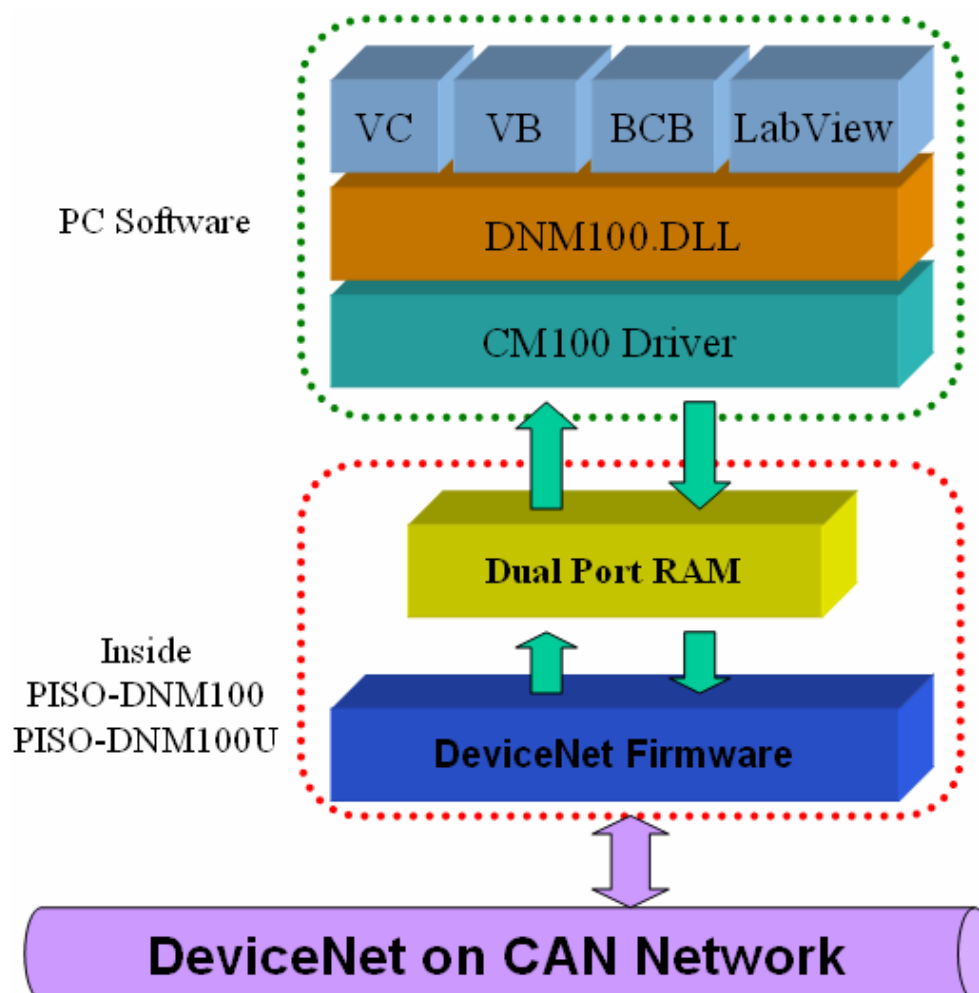

Figure 1.2 PISO-DNM100(U) illustration.
1.4 PISO-DNM100(U) Architecture
The PISO-DNM100(U) provides users to establish DeviceNet network rapidly by Master/Slave connection model. The PISO-DNM100(U) is a high-performance DeviceNet master board with one CPU inside. This architecture of the PISO-DNM100(U) almost doesn't cost CPU resource and really increases the work efficiency on DeviceNet network. Applying the PISO-DNM100(U), users don't need to take care of the detail of the DeviceNet protocol. The inside firmware implements the DeviceNet protocol to help users to establish the connection with DeviceNet slave devices easily. The illustration about the idea is shown as Figure 1.2.